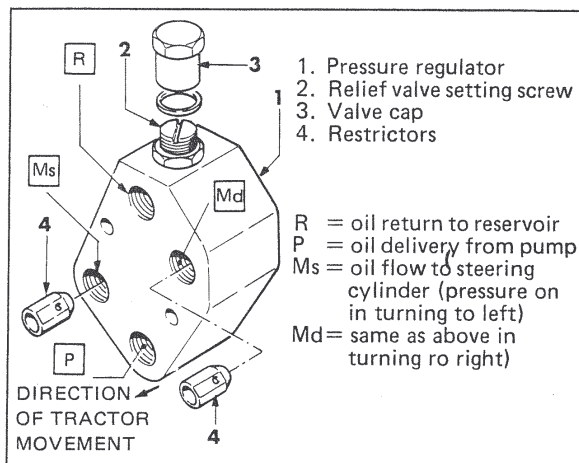
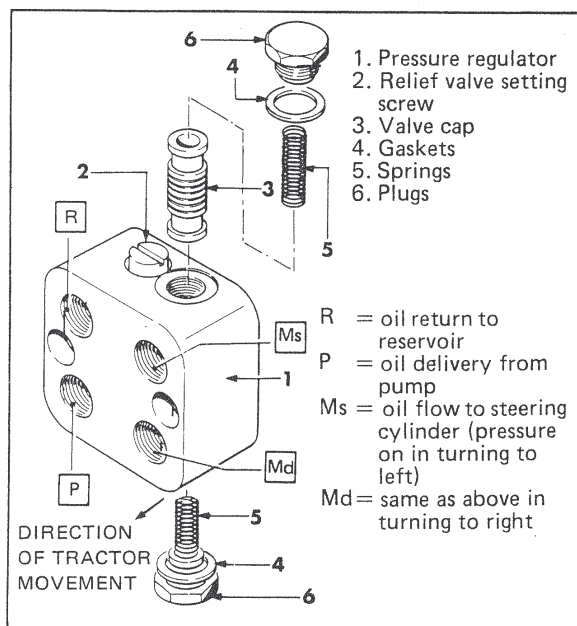

Figure 33. Setting of the hydraulic power steering valve (example A)
Figure 34. Setting of the hydraulic power steering valve (example B)
(see fig. 33 and fig. 34)
- Make sure pressure gauge reading is 100 to 110 kg/sq.cm. If reading is different, adjust setting through valve (fig. 33 or fig. 34, item 1) of the hydraulic power steering unit, by screwing on or off adjusting screw (2) after removing valve cap (3).
a. Incorrect steering movement.	1. Air in the steering jack. Bleed the system. 2. Jack packings are faulty. Replace all jack seals. 3. Hydraulic steering valve dirty. Where valve of fig. 33 is fitted, disassemble and clean restrictors. Where valve of fig. 34 is provided, disassemble and clean valve piston and verify that springs are not broken.